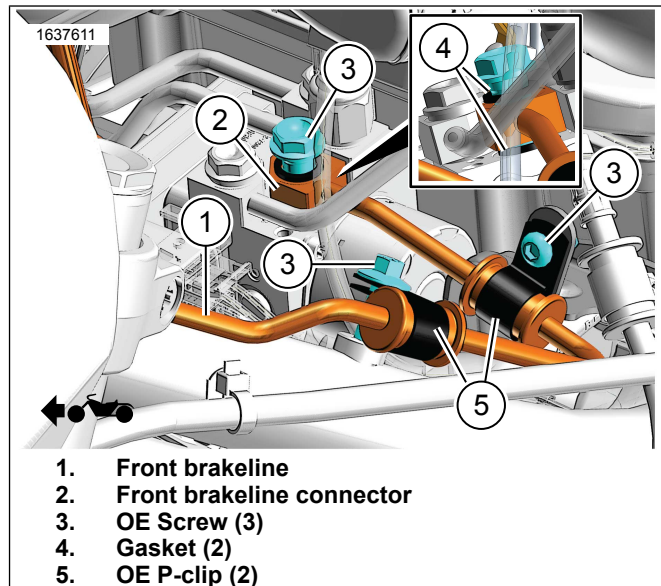
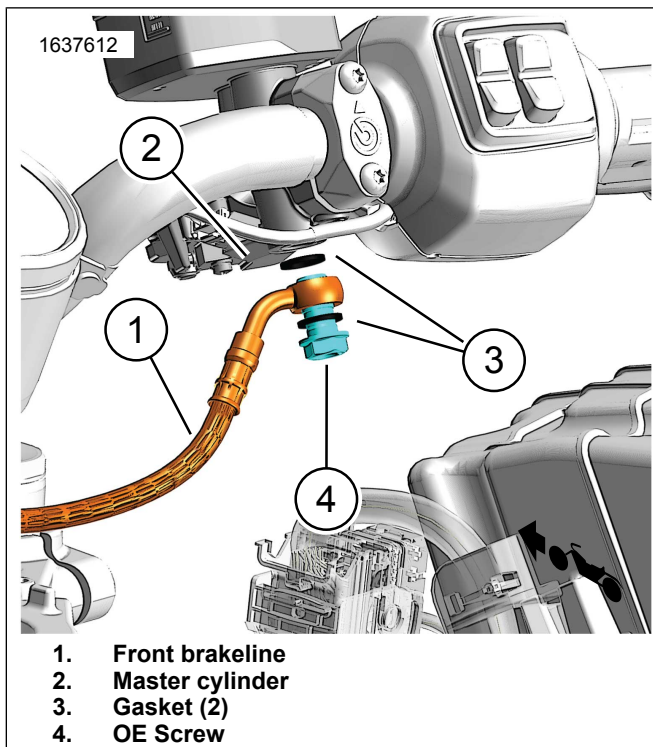

Figure 2. Front Brakeline Connection
Figure 3. Front Brakeline Connection to Master Cylinder
2. See Figure 2. Connect front brake line (1), gaskets (4) and OE screw (3).
3. Attached front brake line (1) to vehicle frame with OE P-clips (5) and OE screws (3).
4. See Figure 3. Attach front brake line (1), gaskets (3) and OE screw (4) to master cylinder (2).